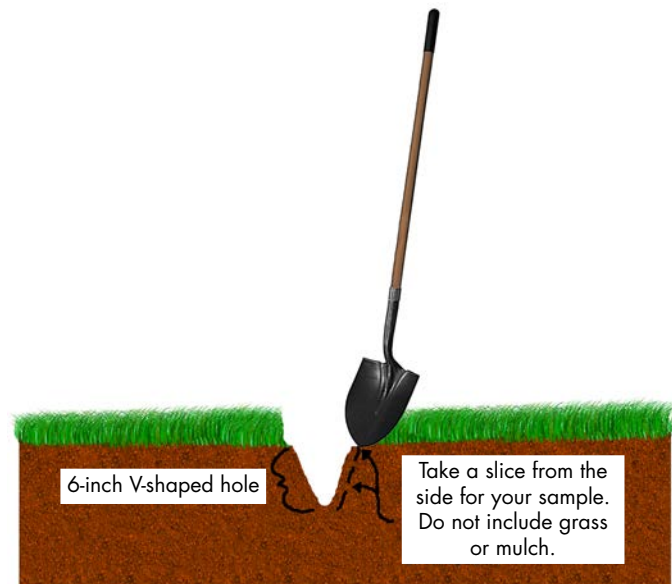

Figure 2. An example of how to take a soil sample.
3. Place **four to six small samples** from *each area* in a bucket and mix thoroughly. See **Figure 2** for an example of how to take a sample.